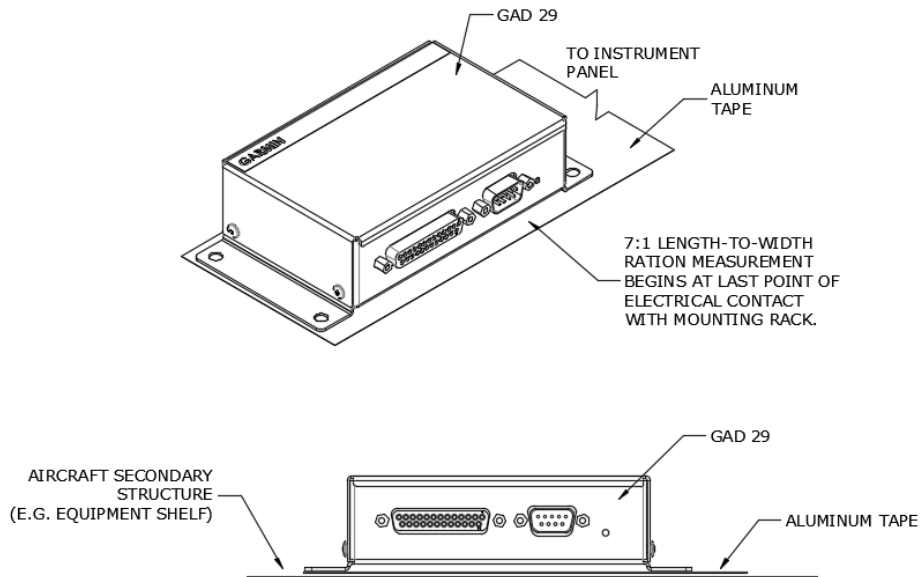

Figure 4-52 GAD 29/29B Aluminum Tape Installation
15. Secure the aluminum tape to the GAD 29/29B or mounting rack as shown in Figure 4-52.